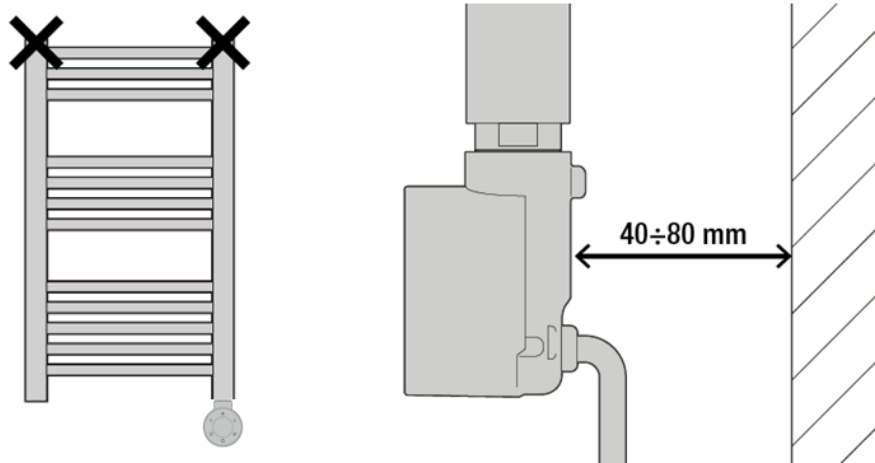

Figure 5 RIO / RIO WIFI positioning
- RIO / RIO WIFI must be installed at distance of 40 mm (minimum) and 80 mm (maximum) from the wall. Figure 5 shows the optimal positions for the RIO / RIO WIFI.
- Make sure that the towel rail can have the RIO / RIO WIFI on the bottom side (Figure 5).